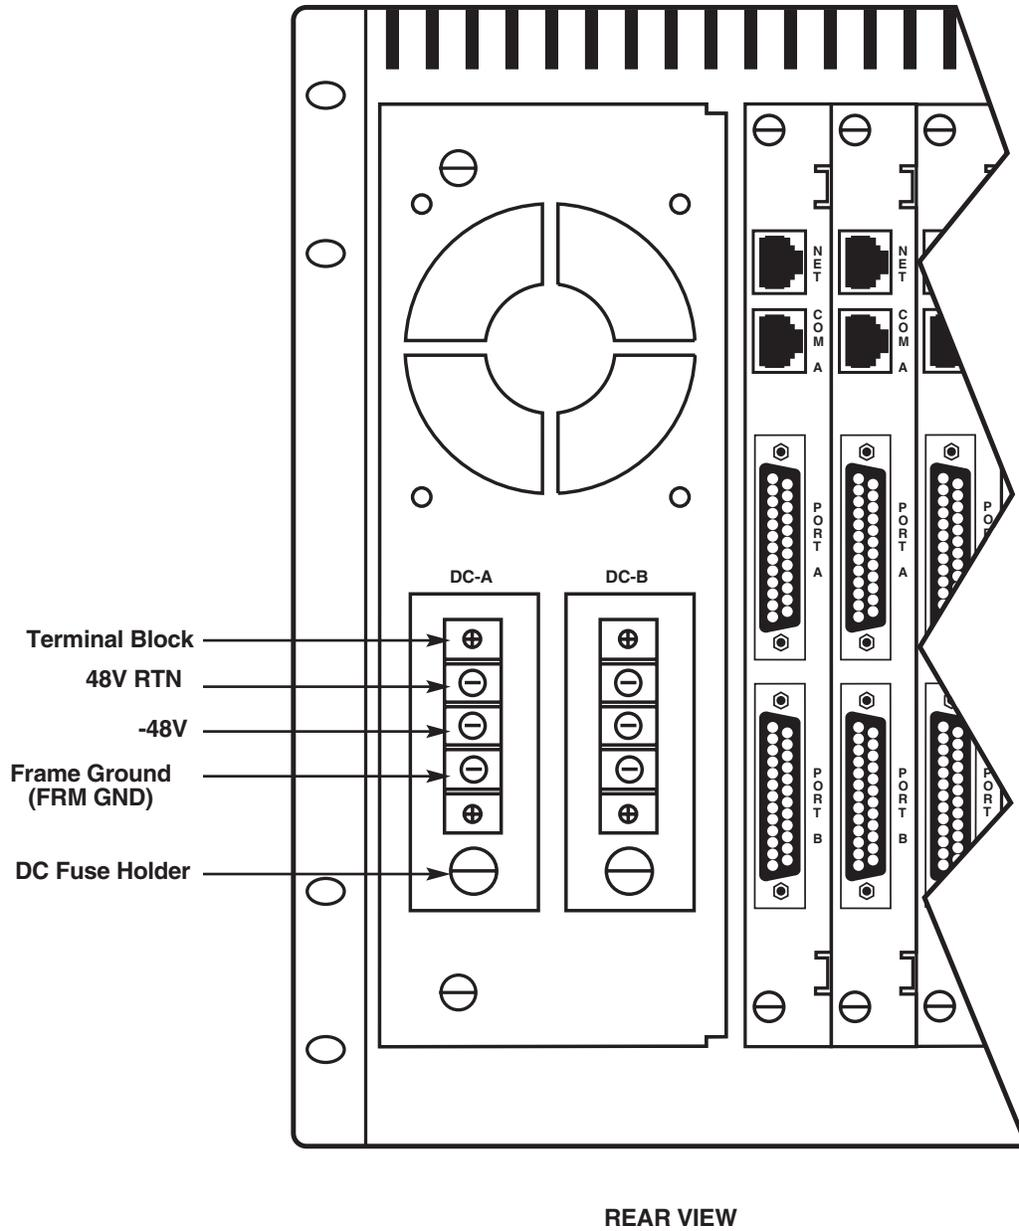

Figure 3-8. Powering Up the -48 VDC Chassis.
2. Slide the wire carrying -48 VDC under the terminal block screw labeled -48V. Tighten the screw. See Figure 3-8.
3. Slide the wire carrying Ground under the terminal block screw labeled 48V RTN. Tighten the screw. See Figure 3-8.
4. Slide the wire carrying Frame Ground under the terminal block screw labeled FRM GND (Frame Ground). Tighten the screw. See Figure 3-8.